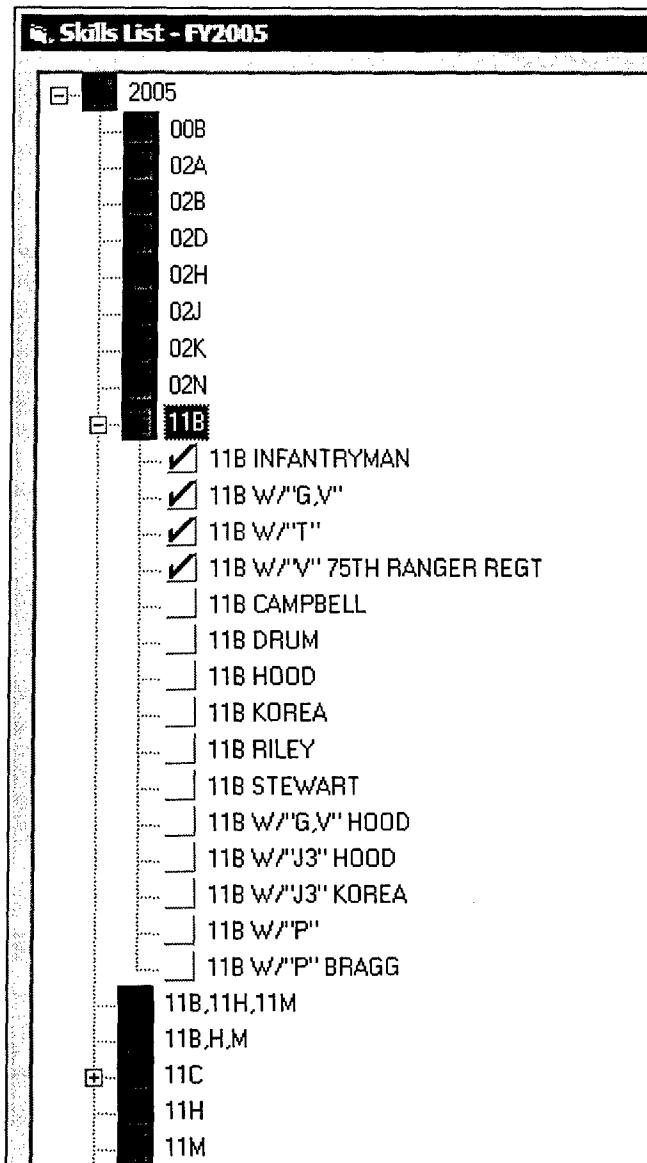

Figure 9. Show All Skills
4. With the mouse over a selected MOS, right click and choose Show All Skills to display other MOS skills that are not currently active (Figure 9). Non-active skills do not display a check mark to the left of the title. You may also use this method to display a list of skills for any MOS that currently has no active skills for the selected fiscal year.